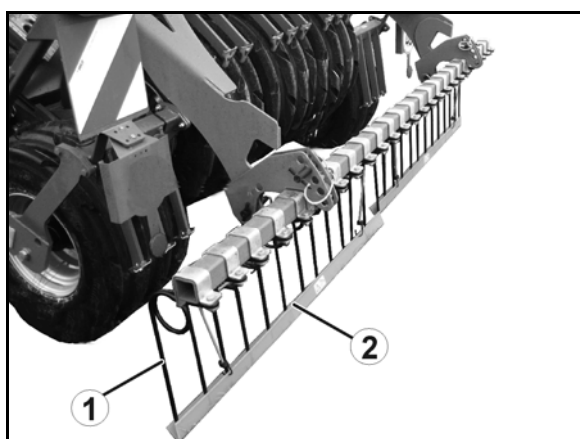

Fig. 8
Hekkharv (Fig. 8/1):
- Transportsikringslist (Fig. 8/2) for hekkharv ved veitransport